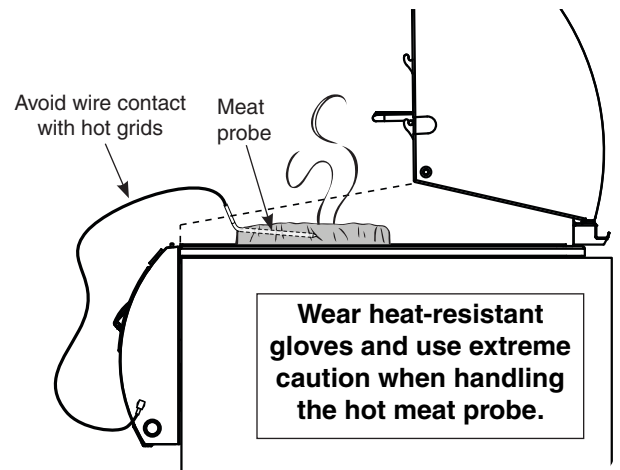

Fig. 31-3 Meat probe
- Meat probe wire is rated up to 800°F and cannot withstand continuous contact with flame. Avoid wire contact with hot cooking grids. See Fig. 31-3. If wire shows visible damage, meat probe needs to be replaced.